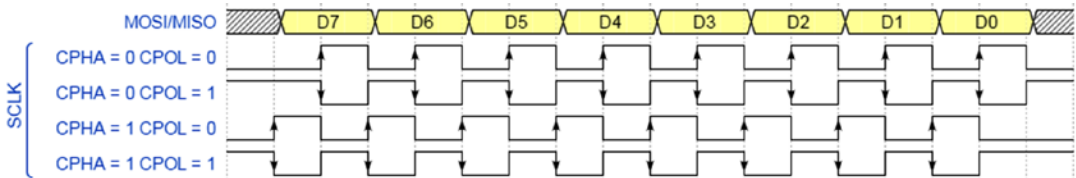
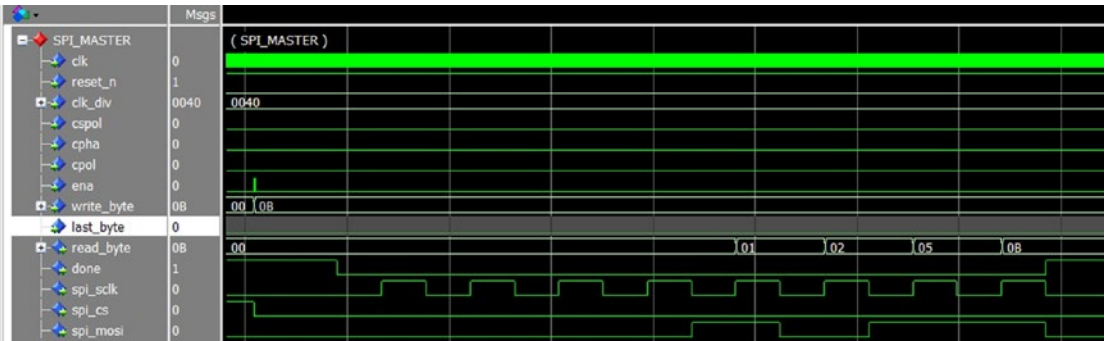

Figure 14-4. SPI clock timing setting
Figure 14-7. SPI master sclk and mosi when cpha = 0 and cpol = 0
2. User can control the master clock polarity (CPOL) and phase (CPHA) (Figure 14-4 shows the CPOL and CPHA).
The chip select will be active low when chip select polarity (CSPOL) is LOW. The functions are shown in Figure 14-4. Figures 14-7, 14-8, 14-9, and 14-10 are the actual outputs from the SPI master with different combinations of CPHA and CPOL.
Each SPI masters (Figure 14-7, 14-8, 14-9 & 14-10) are send out one byte with value equal to 0x0b serially on the spi_mosi with the clk_div equal to 63 (Hex 0x0040)